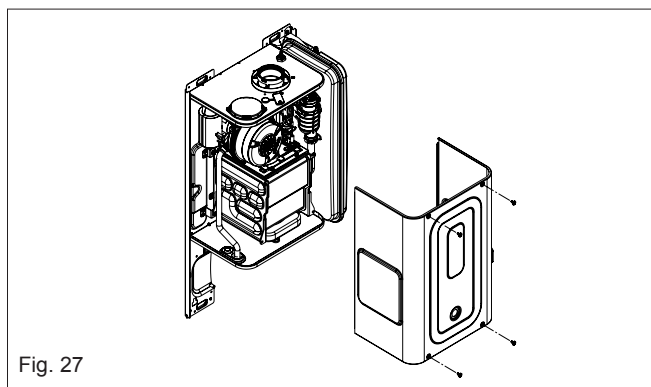

Fig. 27
6.4.1 AIR BOX FRONT COVER REMOVAL (fig. 27)